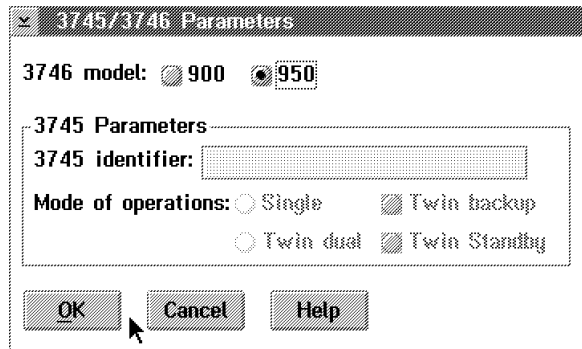

Figure 4-2. 3745/3746 Parameters Window
- Step 1.** Double-click on the icon for the coupler you want to configure. This displays the **3745/3746 Parameters** window (see Figure 4-2).